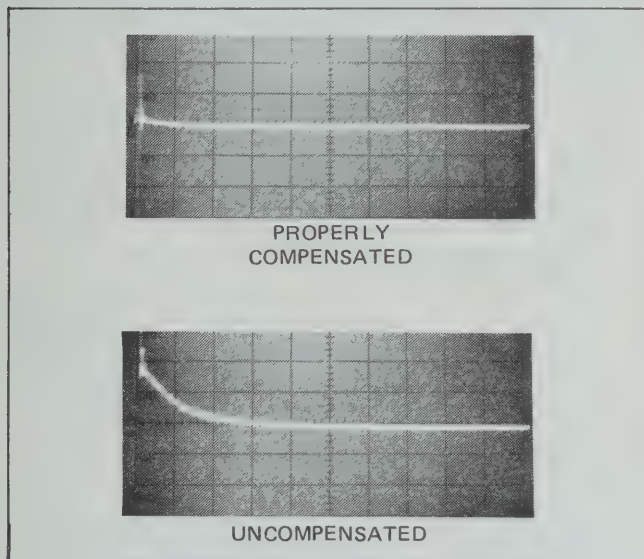

Figure 3-35. Probe Compensation.
h. Adjust the probe so that its response is flat over the entire frequency range (Figure 3-35).